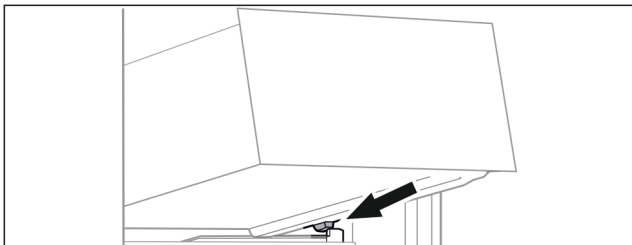

Fig. 68
- ▶ Place drawer at an angle behind the stoppers on the moulded rib. (see Fig. 68)